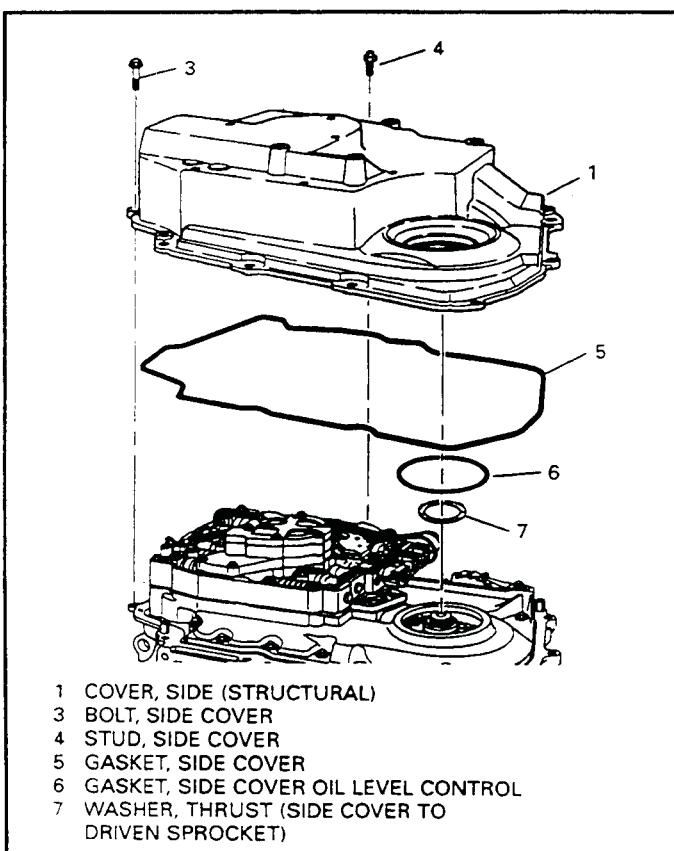

Figure 53
29. Rotate the transaxle so that the side cover (1) is facing upward as shown in Figure 53.
30. Remove the ten side cover bolts and one stud, as shown in Figure 53.
32. Remove and discard the two side cover gaskets (5 and 6) as shown in Figure 53.
33. Remove the side cover to driven sprocket support thrust washer (See Figure 53).